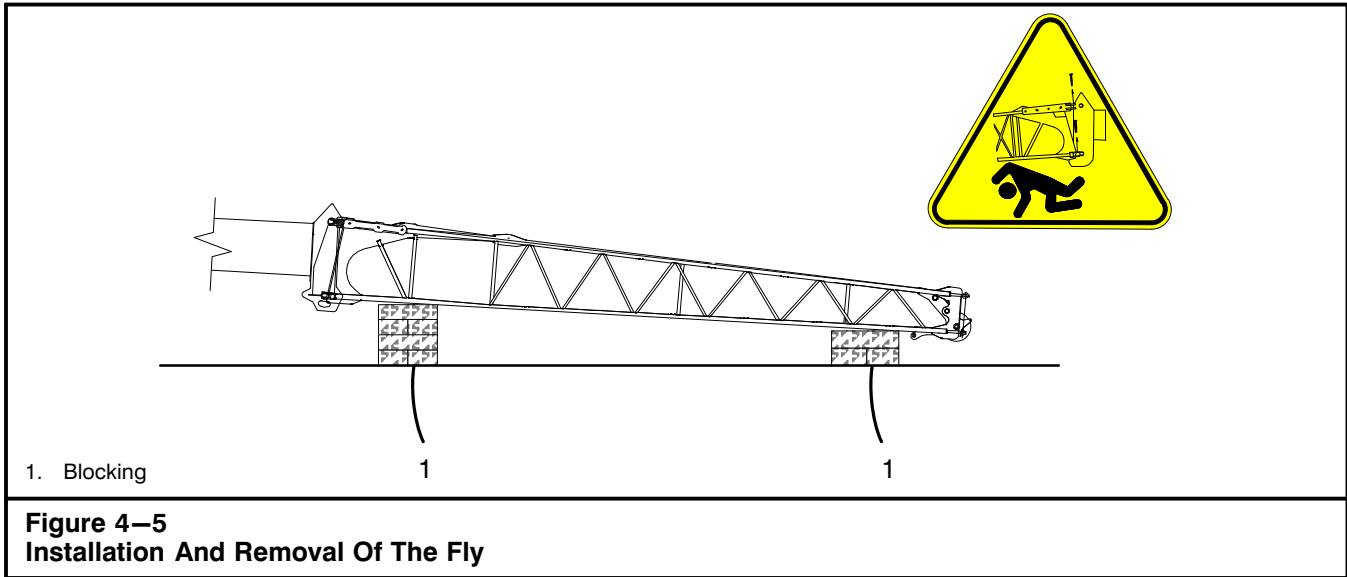

Figure 4–5
4. Check that the fly adaptor lug and offset connecting pins are installed in the 2° offset position. Refer to Figure 4–13.
5. Position the fly on secure blocking. The fly weighs approximately 1,660 lb (753kg). Refer to Figure 4–5.